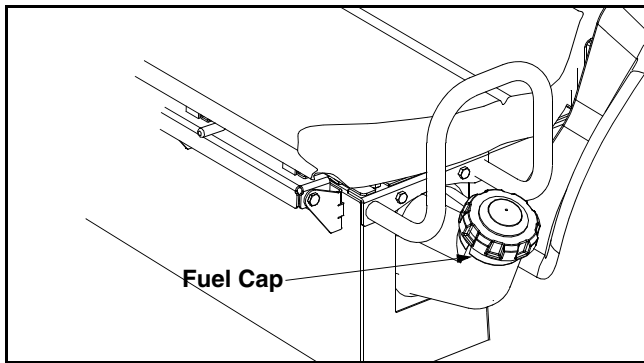

Figure 13
- Clean area around fuel cap and remove cap. See Figure 13.